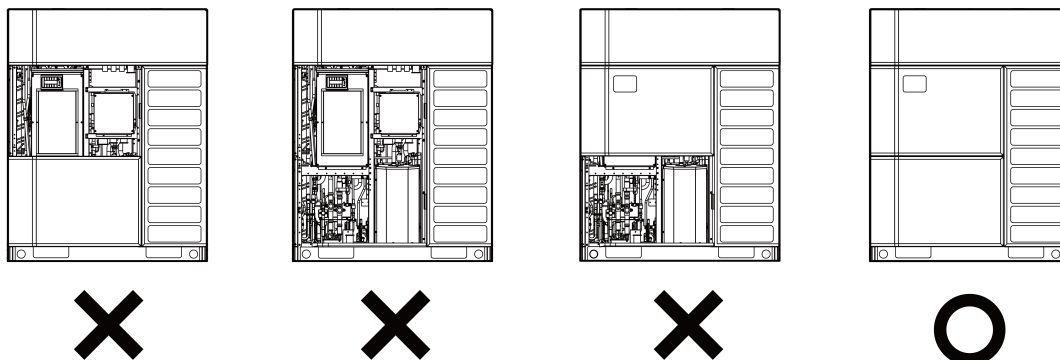

Fig.4.1.1
- (1) Installation and debugging operation must comply with the relevant regulations of the local country or region.
- (2) Debugging must be carried out by a professional or under the guidance of a professional. Do not debug the air conditioning unit by yourself.
- (3) Power cannot be supplied until all installation work is completed.
- (4) When debugging, the front panel of the outdoor unit must be completely closed, otherwise it will affect the accuracy of debugging (as shown in the Fig.4.1.1 as below).